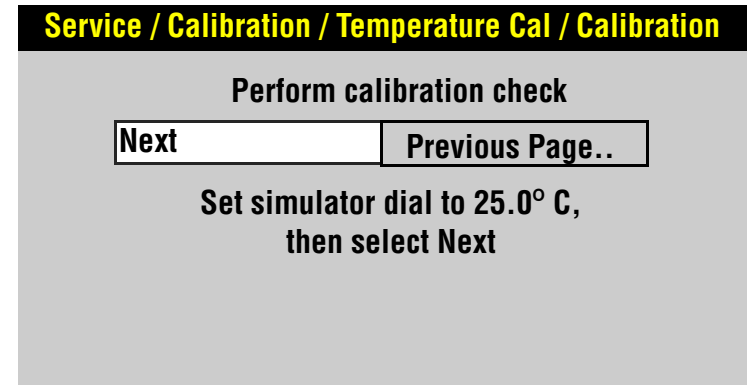

Figure 6.6—Calibration checking
- 6. Connect the temperature sensor to the device and select the Start button. The screen shown in Figure 6.6 appears.